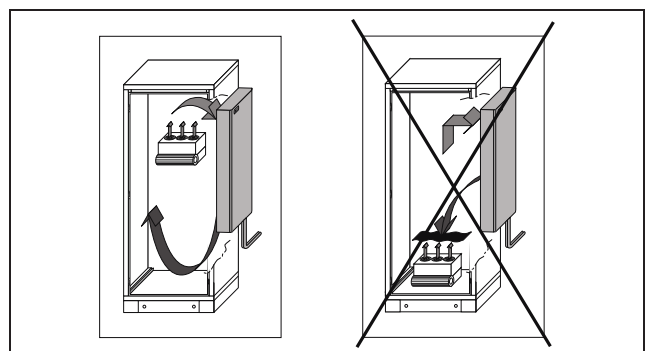

Fig. 3: Never direct the cold airflow at active components
- The air/water heat exchanger is to be mounted on an enclosure and operated exclusively in accordance with fig. 3 (vertical mounting, water connections at the bottom).
- Exercise particular caution with the airflow from the blowers of built-in electronic components (fig. 3).